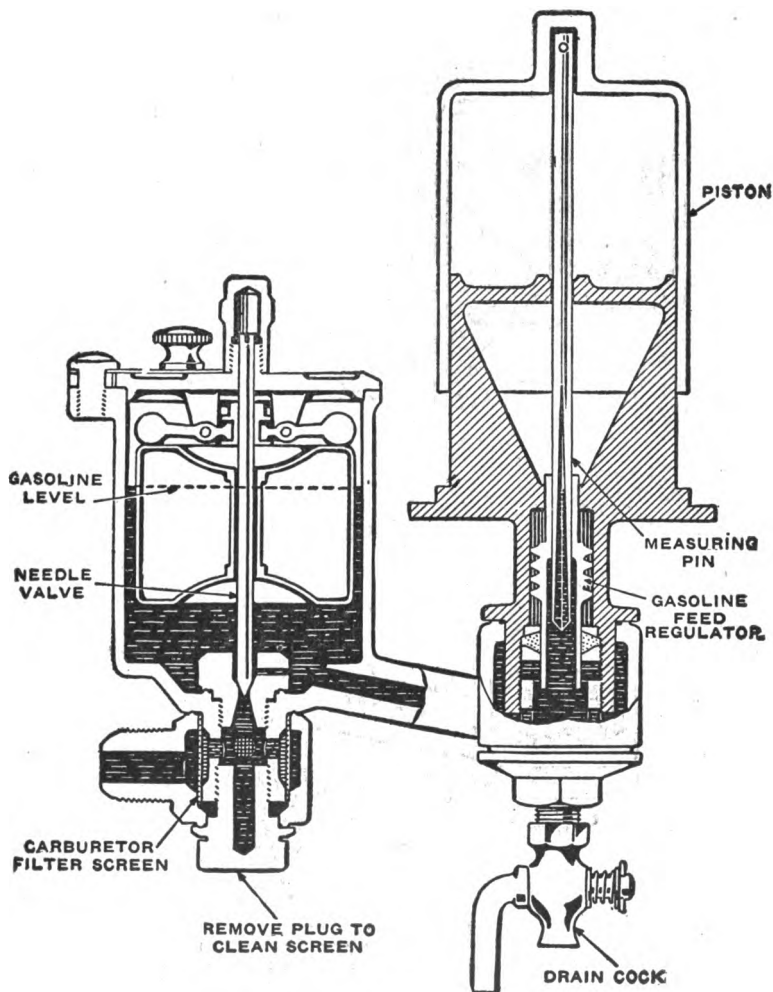

Fig. 91. End View of the Hudson and Essex Carburetor
**Carburetors on Hudson and Essex Cars.** The carburetors used on the Hudson and the Essex are identical in principle but a little different in detail construction. The gasoline level, Fig. 91, is somewhat lower than the top of the gasoline feed regulator. This regulator, which is adjustable from the dash, determines the amount of gasoline fed at a given altitude or temperature. For high altitudes where the pressure of the air is lower than at sea level, less gasoline is needed, and the sleeve is moved upward.